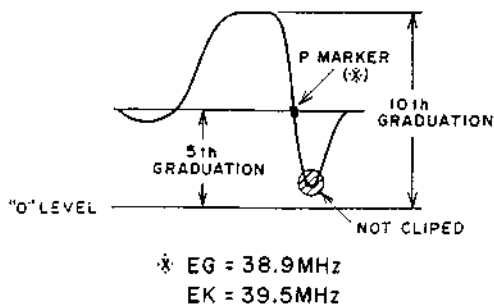

Fig. 8-12
- b) Connect an alignment scope to the AFT terminal (Pin ③ of P41).
- c) Give an optional size to the waveform with the External DC power supply (not clipped as shown in Fig. 8-12).
- e) Adjust L5 so that the marker (EG = 38.9 MHz, EK = 39.5 MHz) is positioned 5th graduation of the alignment scope (Fig. 8-12).
- Adjust L3 so that the marker (EG = 38.9 MHz, EK = 39.5 MHz) and waveform on the Alignment Scope as shown in Fig. 8-12.